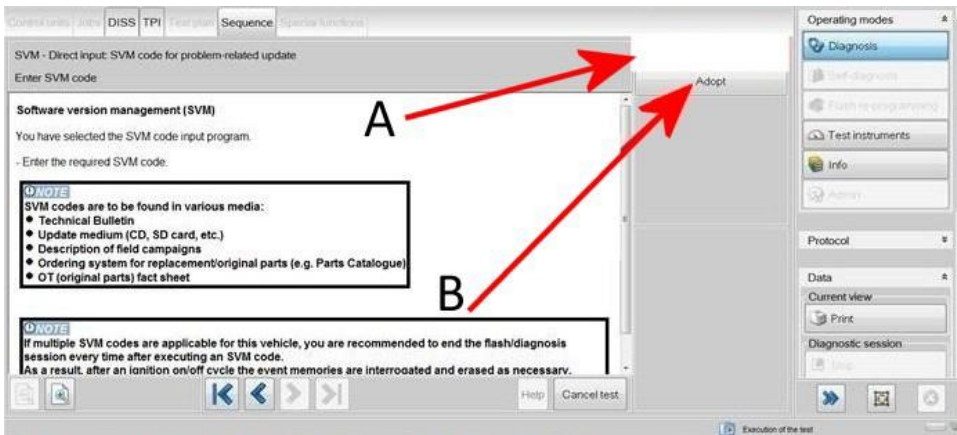

Figure 3
2) Referring to Figure 3 (Point A) enter SVM code 4V1RDOOR01